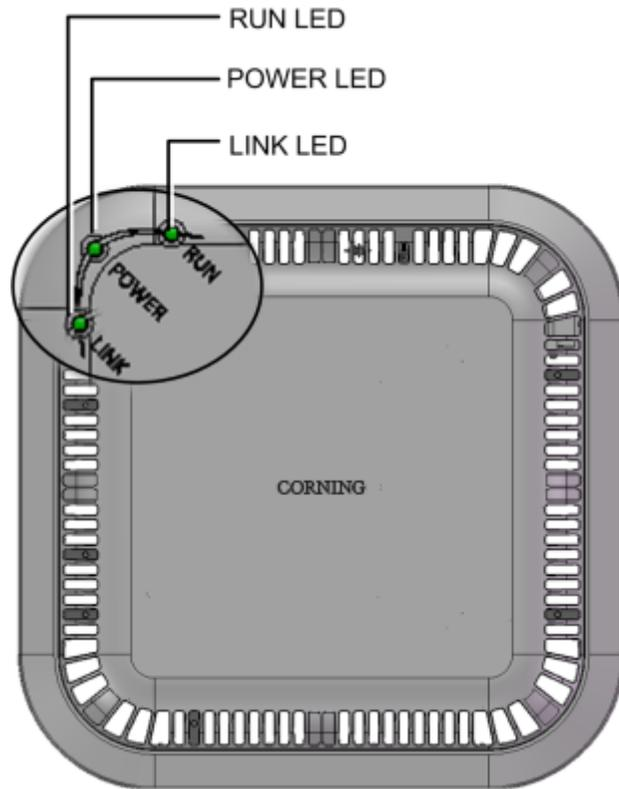

Figure 6-18. RAU Enclosure LEDs
4. Verify that RAU LEDs on, on front cover (see Figure 6-18) indicate normal operation status: